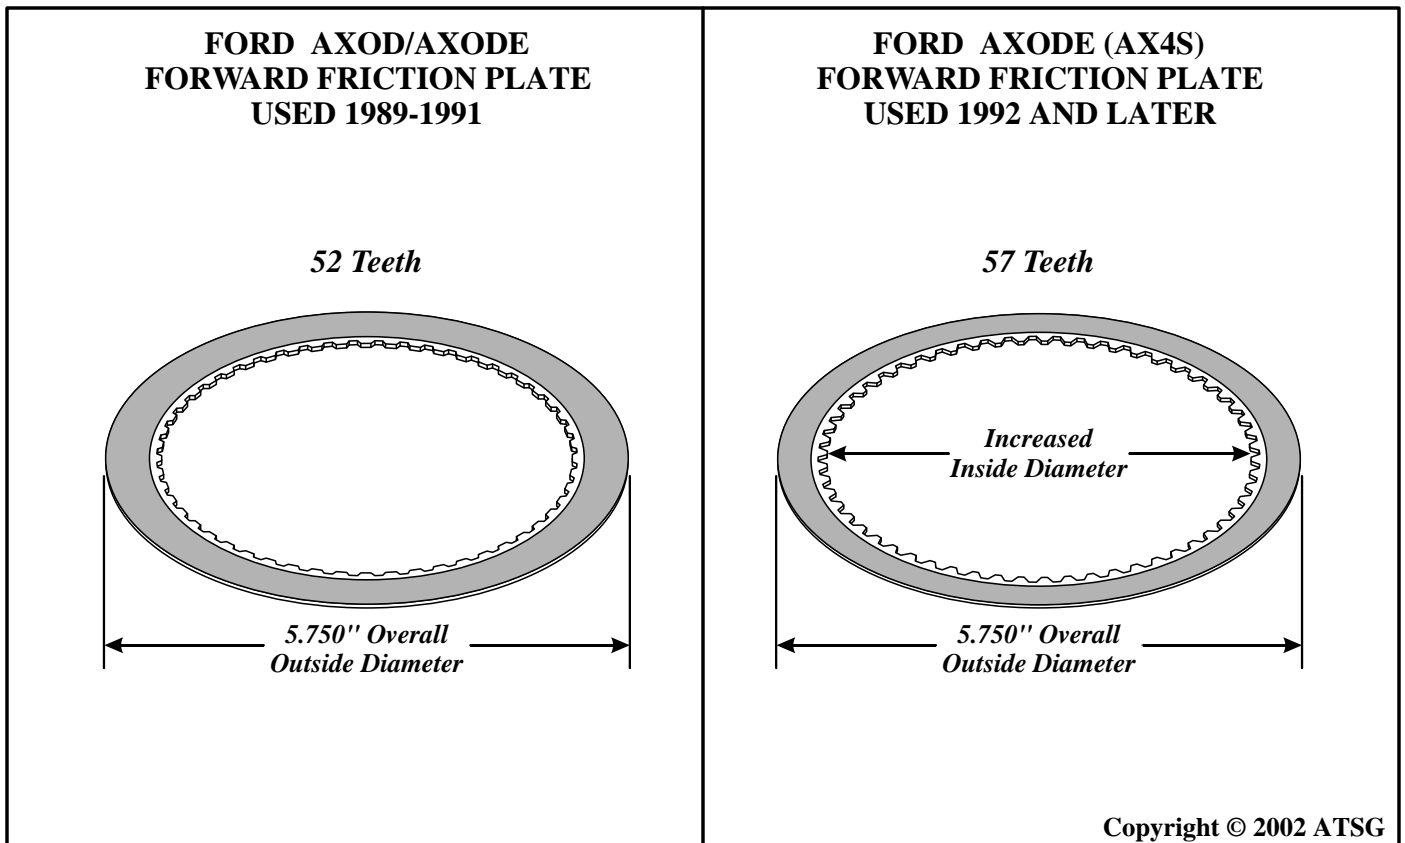

Figure 58
- (2) FORWARD CLUTCH FRICTION PLATES - Have an increased amount of teeth to 57 Teeth from the previous 52 Teeth, to accommodate the increased diameter of the sprag outer race, as shown in Figure 58.